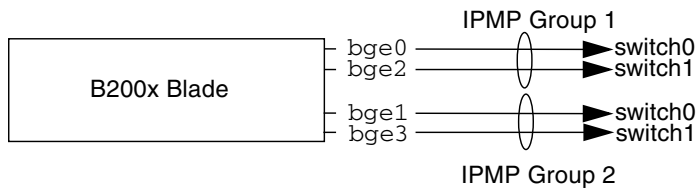

FIGURE 11-2 Diagram Showing Two IPMP Groups, Each Containing Two Interfaces
- The other method uses two groups of IPMP interfaces, each containing one interface to one switch in the chassis and one interface to the other (see FIGURE 11-2). The advantage of this method is that it enables you to reserve a particular pair of interfaces for a particular service. In this configuration each separate IPMP group can be used to provide a network resilient connection for a different set of services running on the server blade.
Note – Note that the achievement of network resilience (enabling a blade to recover from different hardware and network failures) depends upon each IPMP group containing one connection to each switch. A configuration in which both interfaces in a group of two were connected to the same switch would not continue to transport network traffic if that switch failed. In Section 11.2, “How IPMP Works on B100x and B200x Blades” on page 11-3, we saw that bge0 and bge1 are connected to switch 0, and bge2 and bge3 to switch 1. This is also shown in FIGURE 11-2.